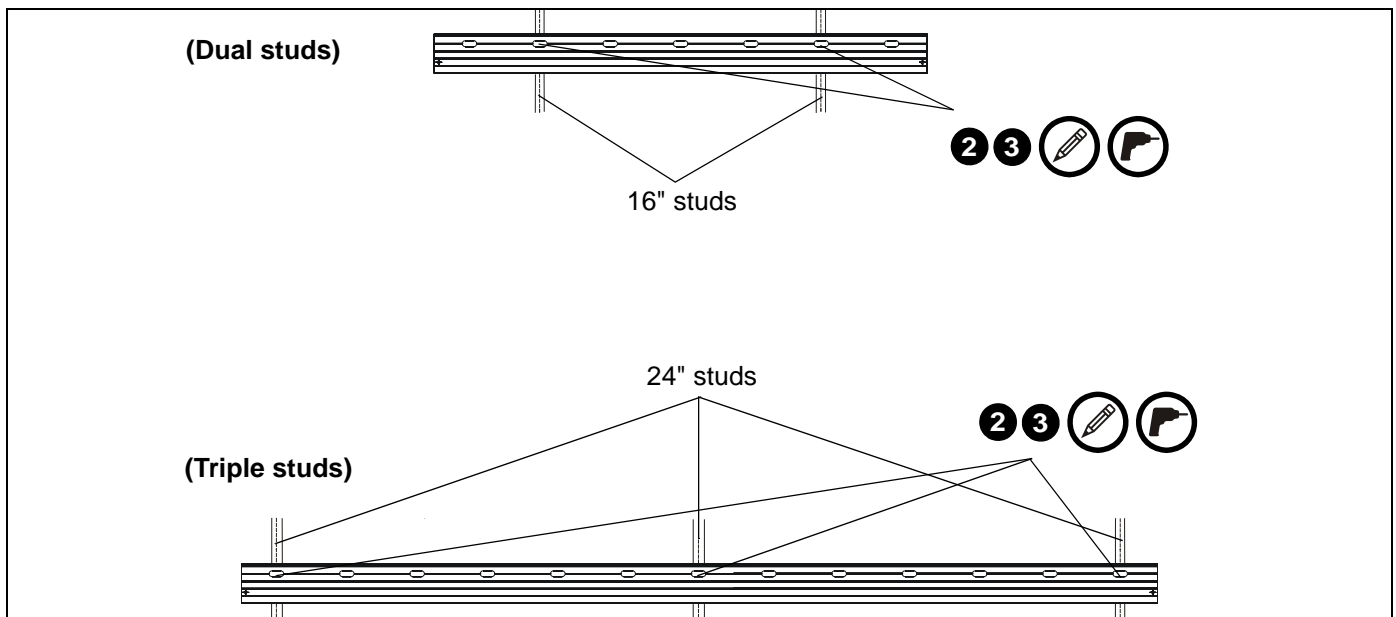

Figure 2
**NOTE:** The ENS lateral shift accessory can be cut to any length and be mounted to 16, 20 or 24" wood studs. The examples shown in Figures 2 and 3 are common examples. Always mount ENS evenly across studs in order to ensure even weight distribution.
2. Using ENS as a template, locate and mark pilot hole locations. Holes must be located in the center of each wood stud. (See Figure 2)
3. Drill 1/4" pilot holes in holes marked in Step #2. (See Figure 2)